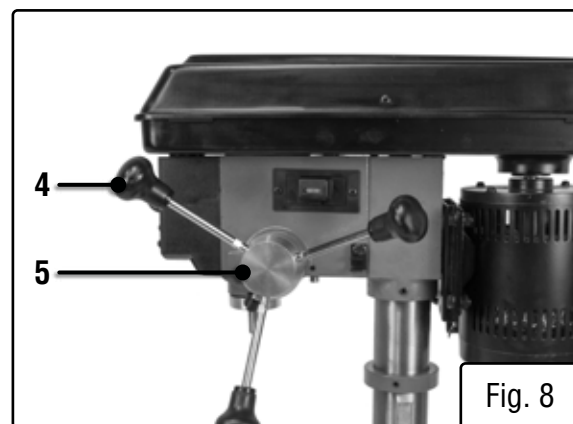

Fig. 8
FEED HANDLES (FIG. 8)
1. Insert the three speed handles (Fig. 8 - 4) into the threaded openings on the feed hub (Fig. 8 - 5).